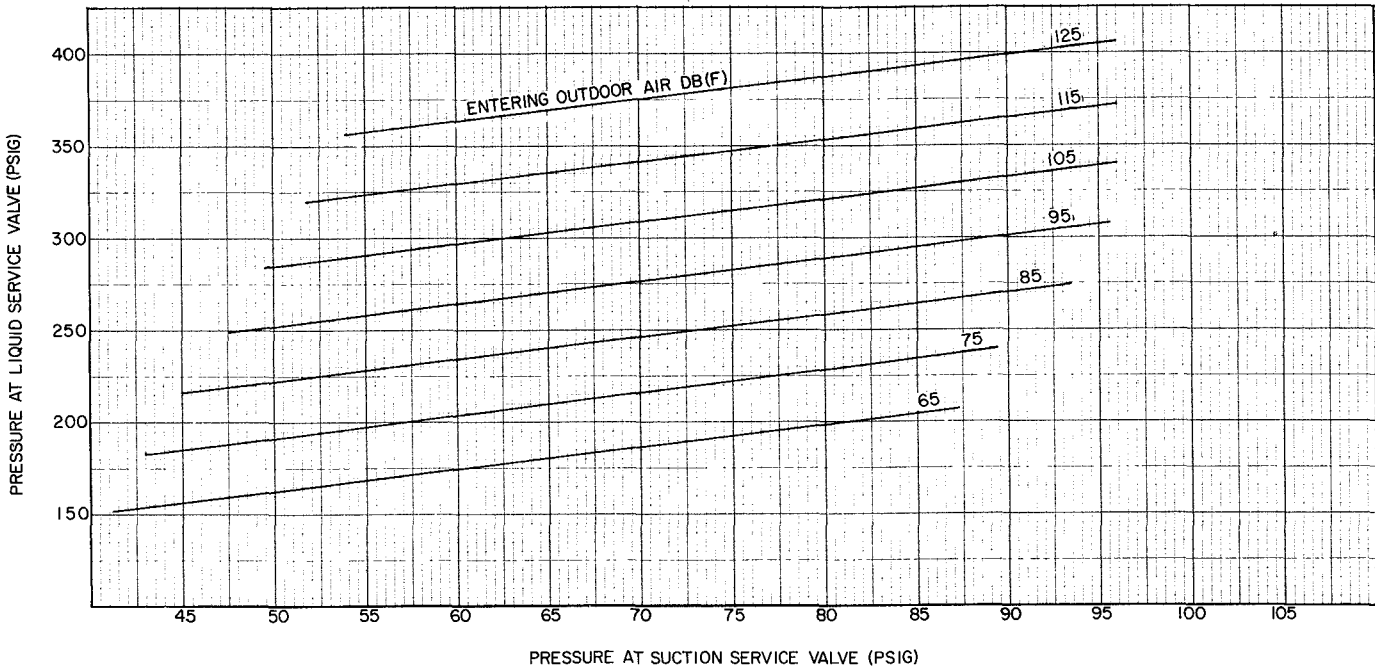
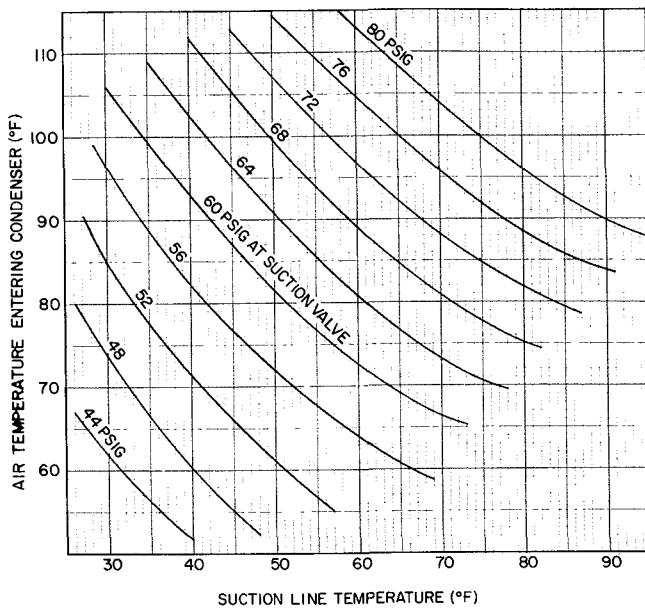

Fig. 6 — 38GS,CC Charging Chart (TXV Systems)
Fig. 8 – 38GS,CC Charging Chart (Capillary Tube or AccuRater™ Systems)
Charging Chart Method — For thermal expansion valve systems, use Charging Chart, Fig. 6 or 7. See Carrier Standard Service Techniques Manual, Chapter 1, for procedure. For capillary tube or AccuRater™ systems, use Charging Chart, Fig. 8 or 9 and the following procedure:
5. Refer to Charging Chart (Fig. 8 or 9). Find condenser air temperature and project horizontally to curve showing suction pressure.